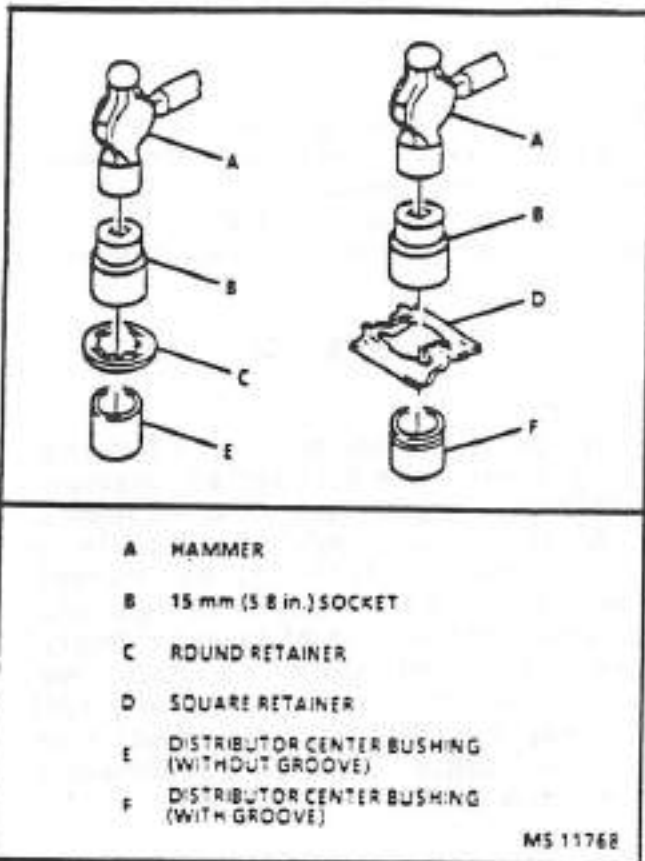

Figure 16 - Retainer to Shield Installation
2. Pickup coil (7).
- 4 Shield (6) onto the coil.
5. Retainer (5) onto the housing (Figure 16).
6. Shaft assembly (4) into the housing (11).
- 7 Tang washer (12), washer (13), and driven gear (14) onto the bottom of the shaft (distributors for six and eight-cylinder engines).
8. Roll pin (15) into the gear.
9. Rotor (3) onto the shaft.